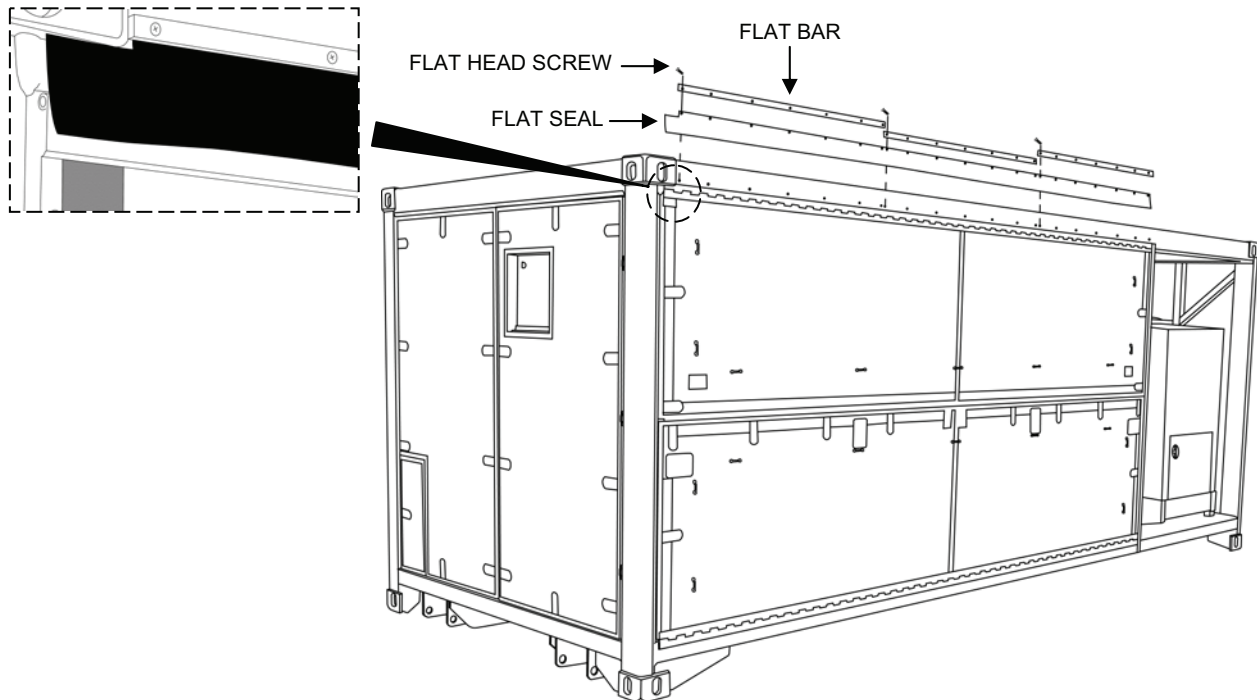

Figure 4. Flat Rack Flat Seal Replacement.
3. Replace the flat rack flat seal as follows (see Figure 4):